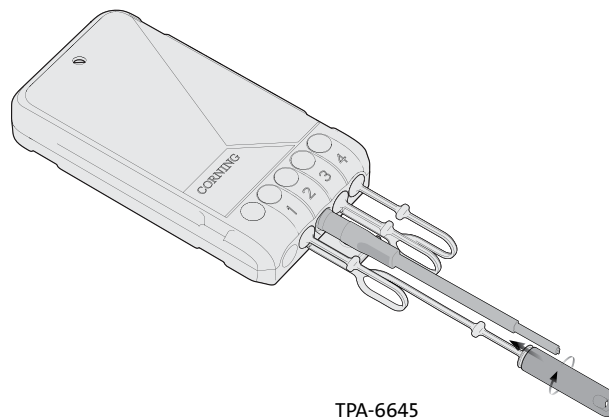

Figure 26
Step 4: Connect the terminal port dust plug with the connector dust cap (Figure 26).